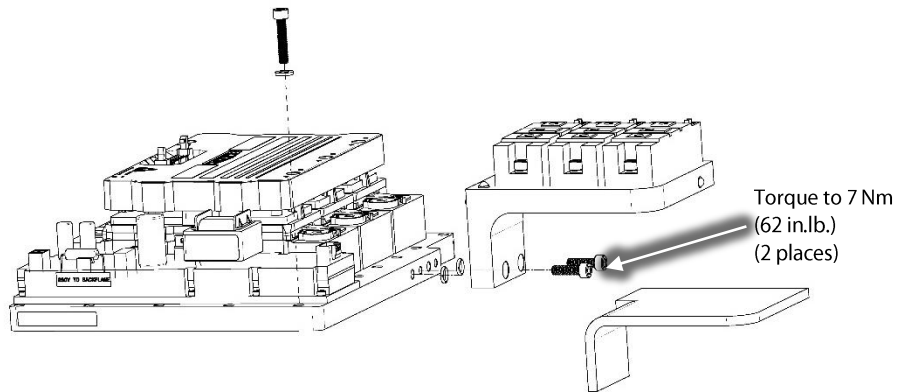

Figure 23 – SCR Cooling Manifold Installation
2. Reinstall the SCR cooling manifold to the Inverter cooling manifold using the two new (2) fasteners and torque to 7 Nm (62 in.lb.). Refer to Figure 23 (SCR Cooling Manifold Installation).